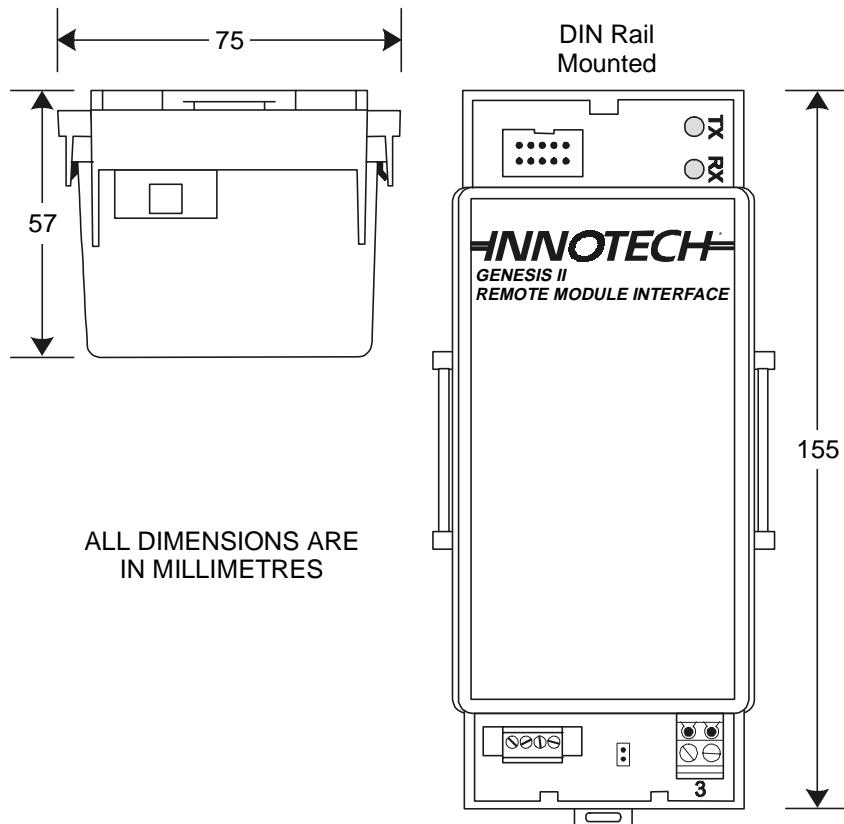

Figure 2-6. GENII RMI Remote Module Interface.
**2-2.2.2.1. Remote Module Interface.** The GENII RMI Remote Module Interface (Figure 2-6) provides an interface between the Genesis II Digital Controller or GENII MPC and the REMs. The Remote Module Interface is DIN rail-mounted close to the controller and the REMs are installed at remote locations. Installation instructions for the GENII RMI and the REMs are contained in Paragraph 2-4.